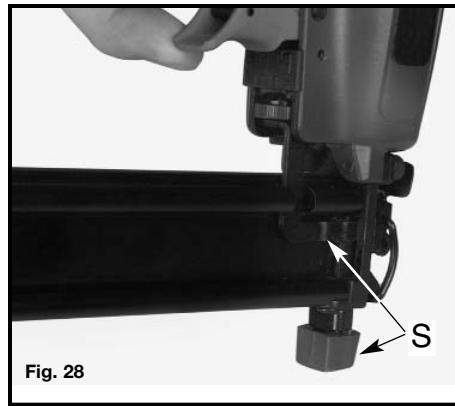

Fig. 28
This tool is shipped from the factory with a “single sequential actuation” trigger. To fire, grip the tool firmly to maintain control, position nose of tool onto work surface, push the tool firmly against work surface to depress safety (S) Fig. 28, and squeeze trigger to fire a nail. Allow tool to recoil away from work surface as nail is driven. This “single sequential actuation” method provides the most accurate fastener placement.